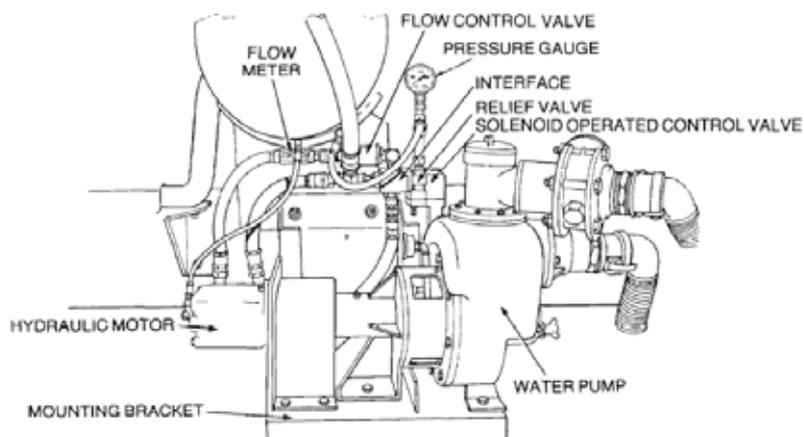

Figure 51 Installation of Pressure Gauge and Flow Meter
- f.** Install an 8000 kPa (1160 psi) pressure gauge to the elbow on the check valve then connect the check valve hose to the gauge (Figure 51).
- g.** Install a flow meter in the hydraulic circuit between the hydraulic motor and the flow control valve as shown in Figure 51.